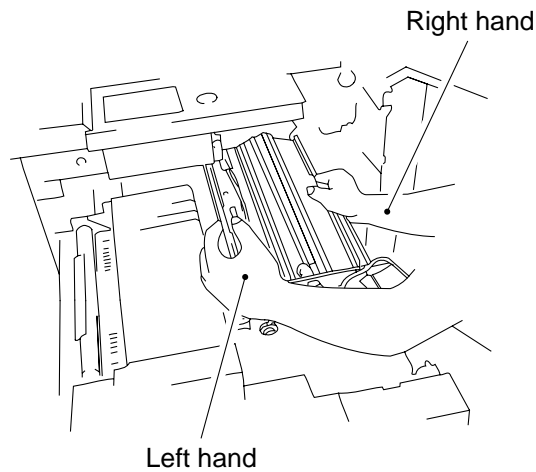

Figure 7-413
- 8) Hold the grip of the process unit as shown Figure 7-413, and remove it.